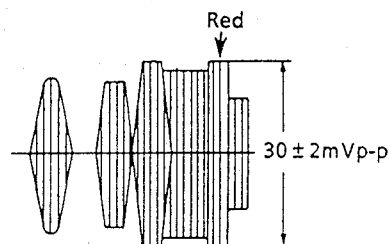

Figure 2-9.
5. Adjust R504 so that the amplitude of red portion is 30 ± 2 mVp-p as shown in Figure 2-9.